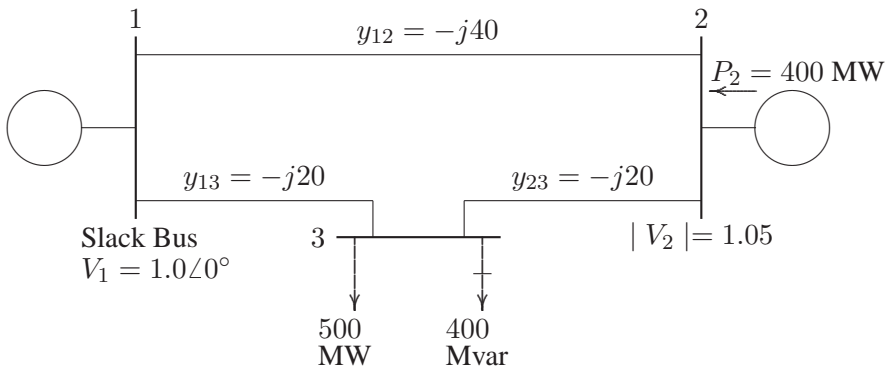

FIGURE 60
6.12. Figure 60 shows the one-line diagram of a simple three-bus power system with generation at buses 1 and 2. The voltage at bus 1 is $V = 1.0\angle 0^\circ$ per unit. Voltage magnitude at bus 2 is fixed at 1.05 pu with a real power generation of 400 MW. A load consisting of 500 MW and 400 Mvar is taken from bus 3. Line admittances are marked in per unit on a 100 MVA base. For the purpose of hand calculations, line resistances and line charging susceptances are neglected.